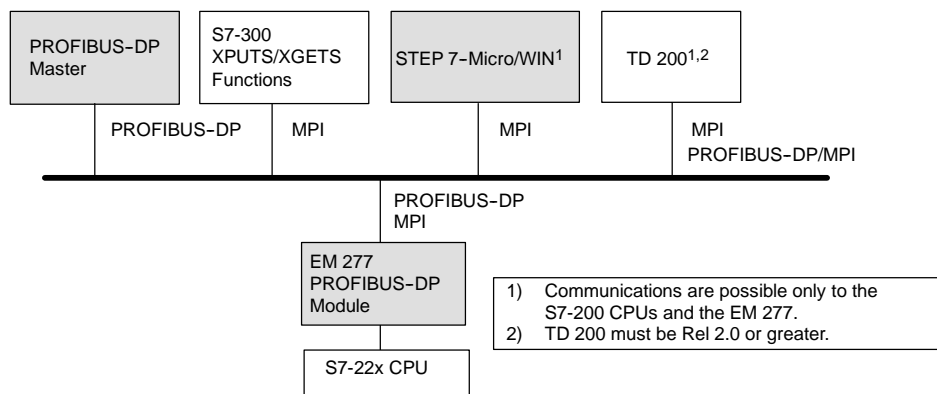

Figure A-27 PROFIBUS-DP/MPI Network
A maximum of six connections (six devices) in addition to the DP master can be connected to the EM 277 PROFIBUS-DP module. One connection is reserved for a programming device (PG) and one is reserved for an operator panel (OP). The other four connections can be used by any MPI master. In order for the EM 277 PROFIBUS-DP module to communicate with multiple masters, all masters must be operating at the same baud rate. See the Figure A-27 for one possible network configuration.